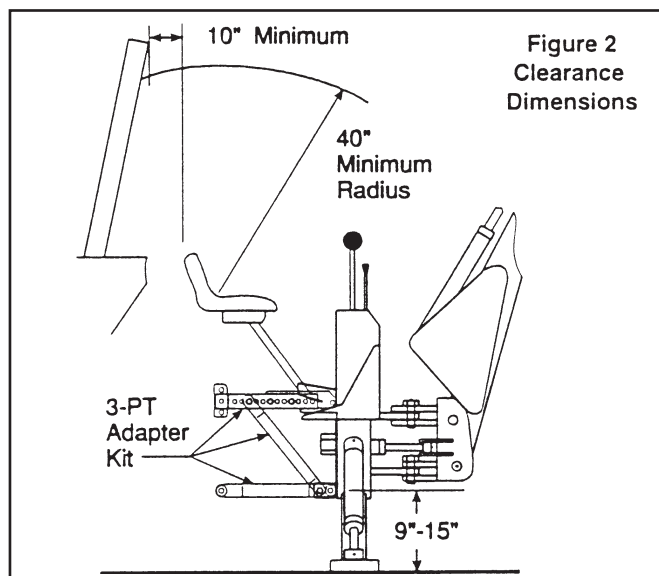

Figure 2
6. Check for proper operator head clearance with ROPS and cab (Figure 2).